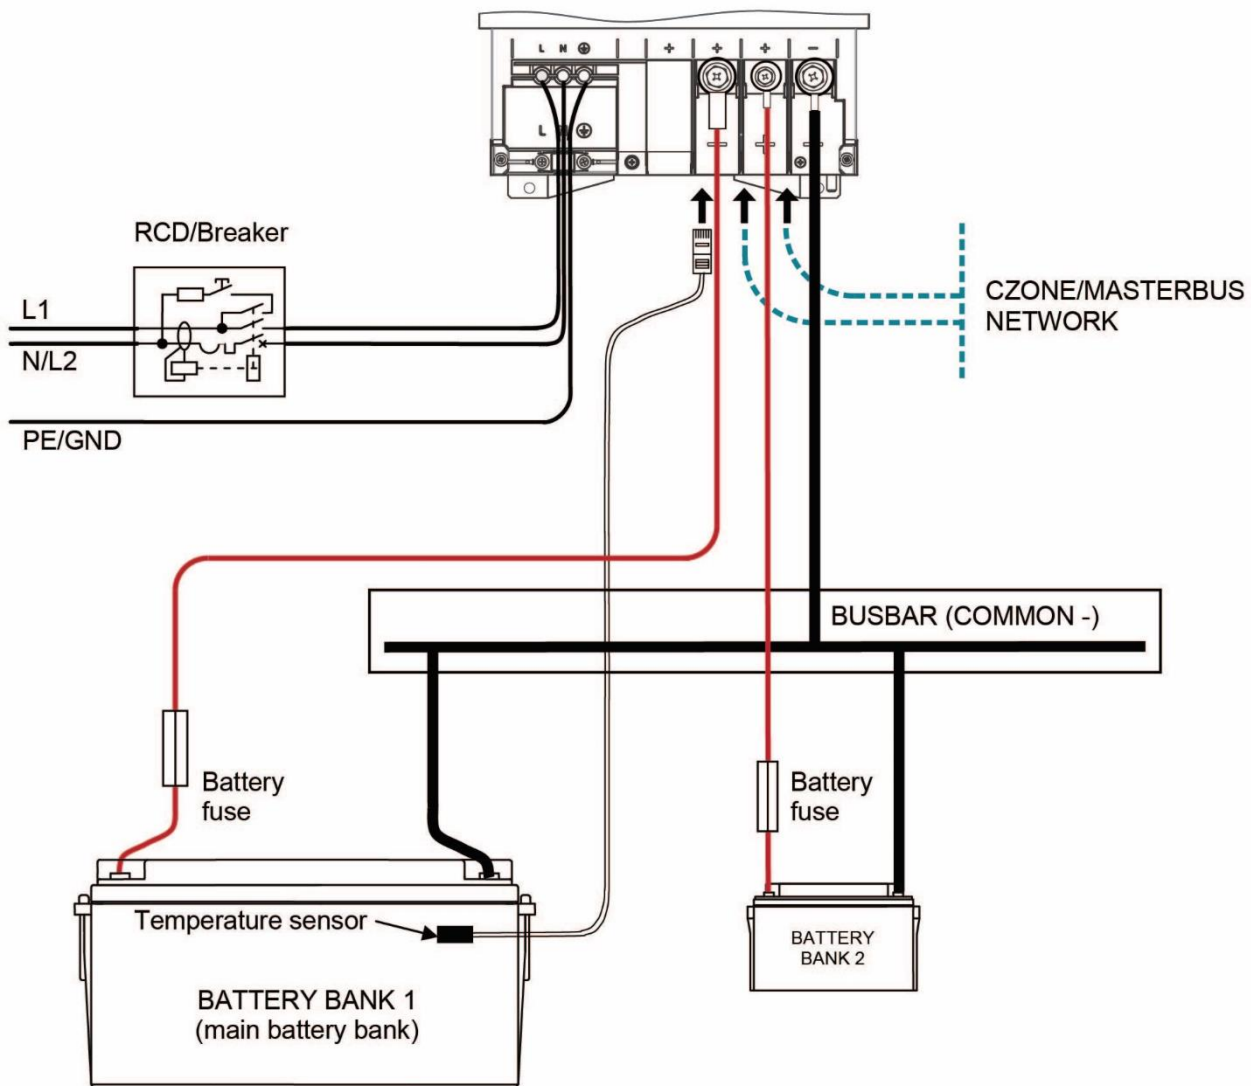

Figure 3: Installation drawing of the ChargeMaster Plus
- 10 Check all wiring; see also Figure 3 for wiring details. If all wiring is OK: Place the DC fuses.